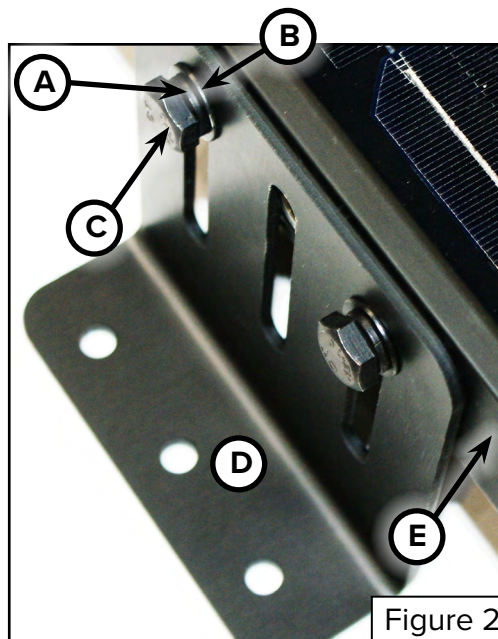

Figure 2
- Using a screw gun, socket adapter, and a 1/2" socket, secure the mounting bracket (Figure 2D) to the solar panel (Figure 2E) so that slotted holes in the mounting bracket are at their farthest travel (Figure 2).